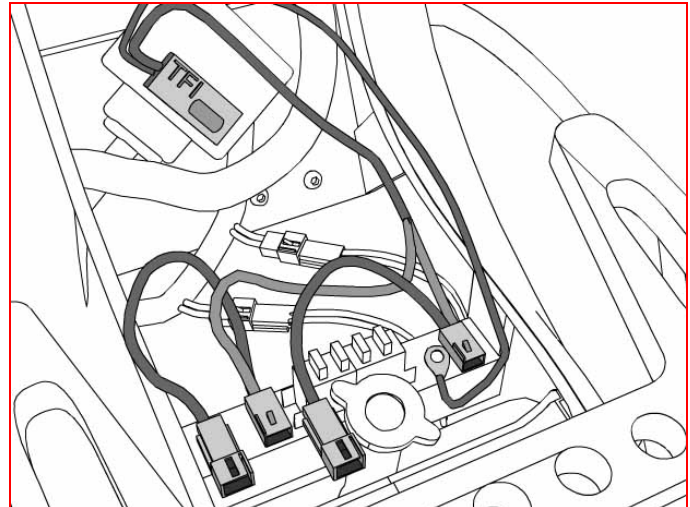

Figure 2
1. **Determine a location for the TFI box. We've shown a picture where we find to be the best mounting spot. (See Figure 2).**